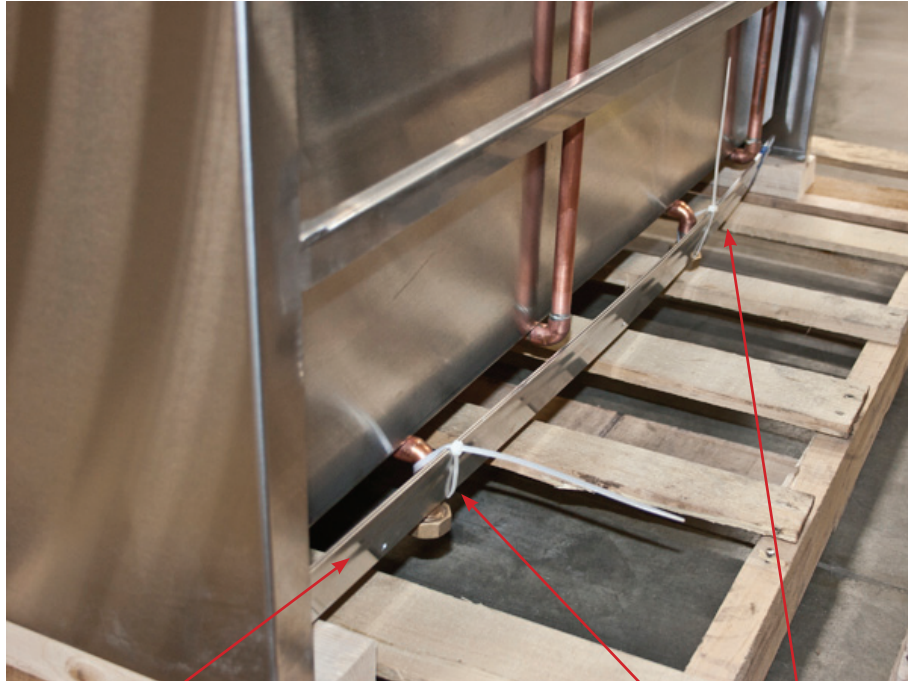

Fig. 4: Z-Bar and zip-ties
8. On smaller model Economy Sinks, there is a Z-Bar attached with zip-ties to the bottom rear of the sink. Clip the zip-ties and remove the Z-bars (Fig. 4).